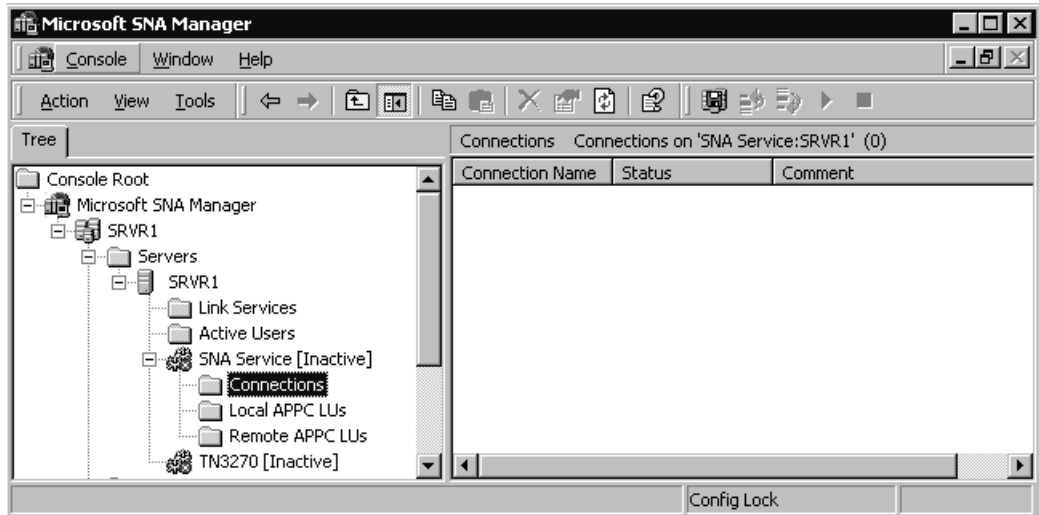

Figure 8-12. Empty Connections Folder
1. Open the **Connections** folder under the **SNA Service** by clicking on it. (Figure 8-12).